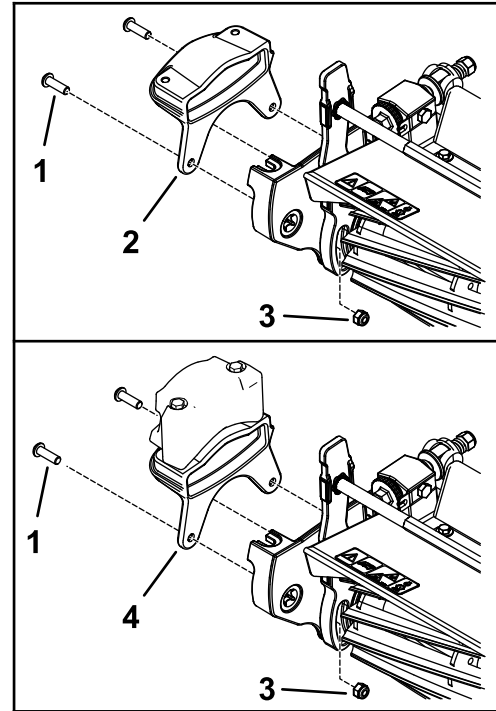

Figure 9
1. Secure the new weight to the side of the cutting unit using 2 bolts (5/16 inch) and 2 nuts (5/16 inch) as shown in Figure 9.